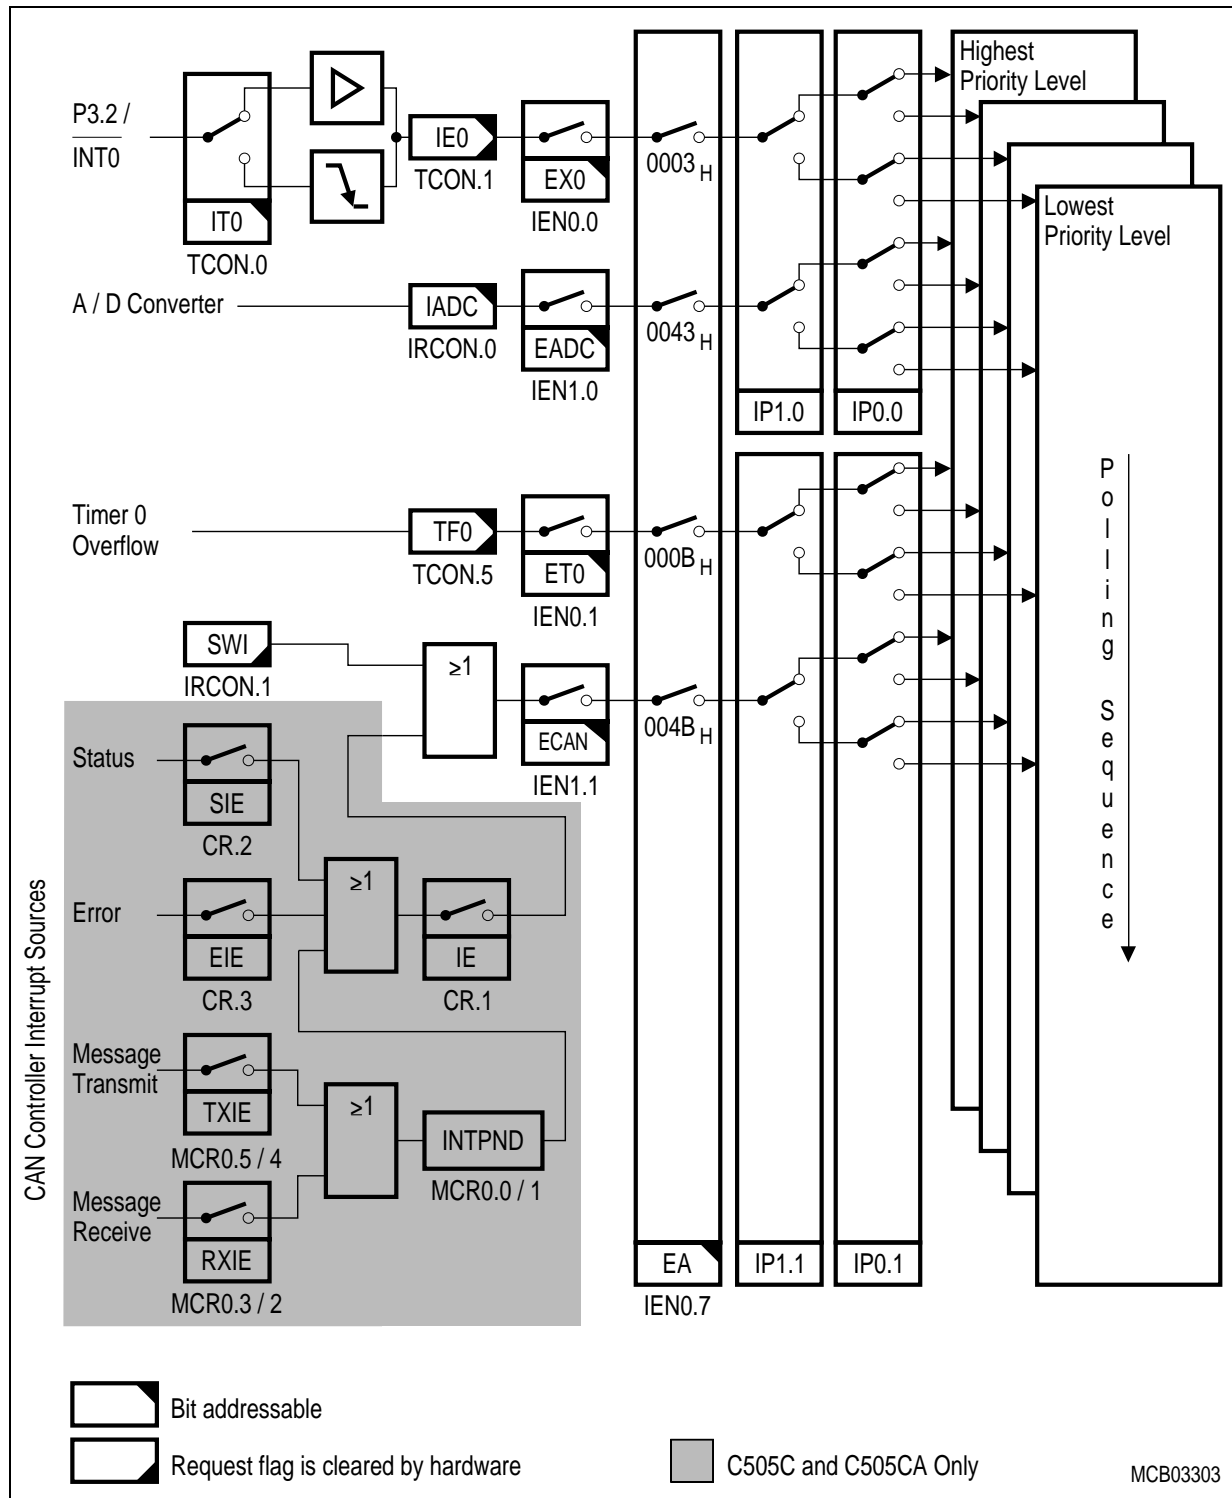
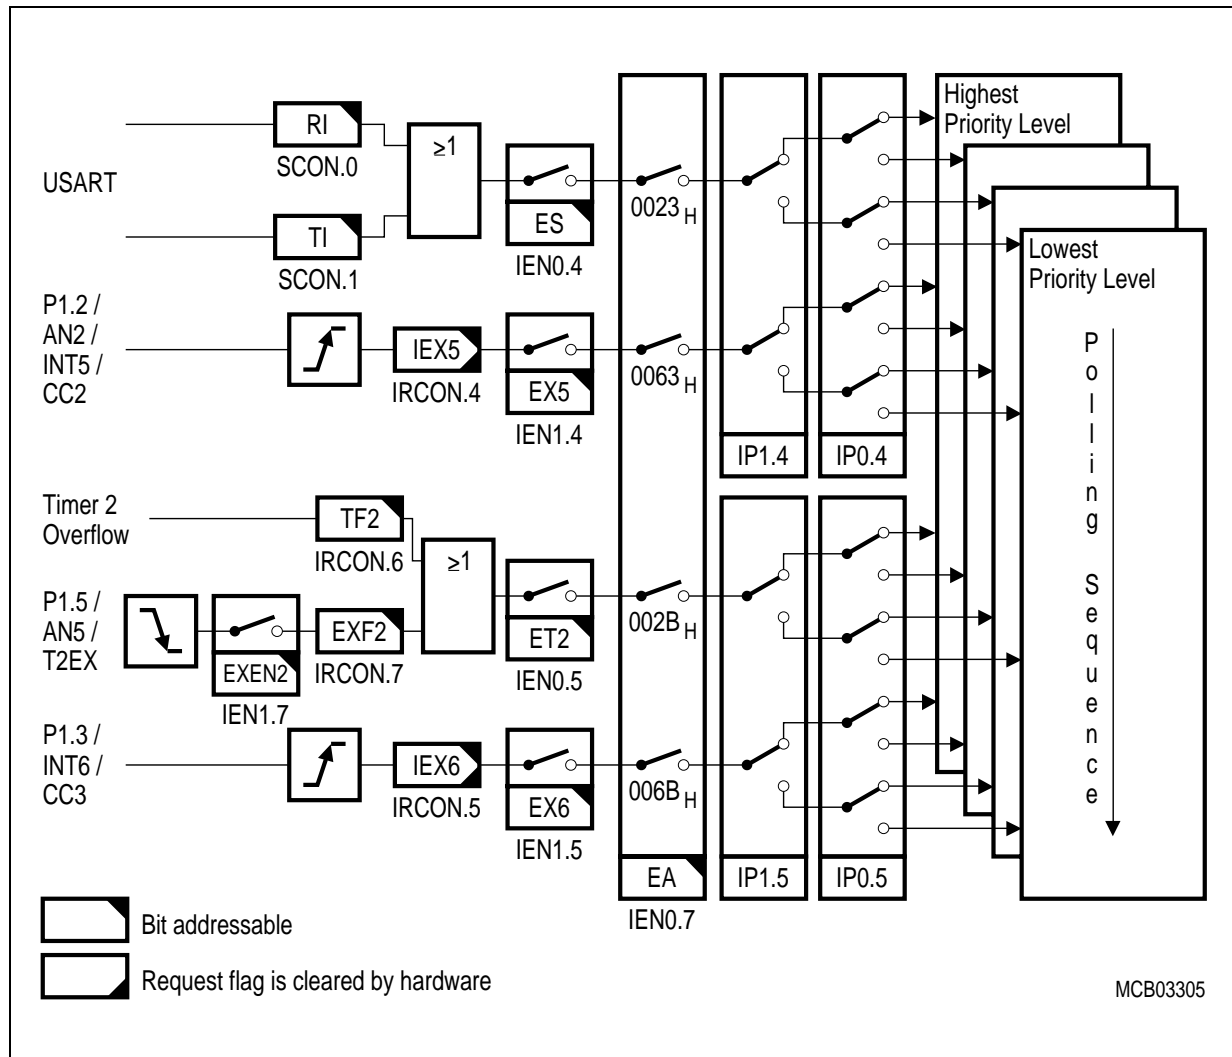

Figure 21
Figure 23
Figure 21 to **Figure 23** give a general overview of the interrupt sources and illustrate the request and the control flags which are described in the next sections. **Table 9** lists all interrupt sources with their request flags and interrupt vector addresses.
*Note: Each of the 15 CAN controller message objects (C505C and C505CA only), shown in the shaded area of **Figure 21** provides the bits/flags.*